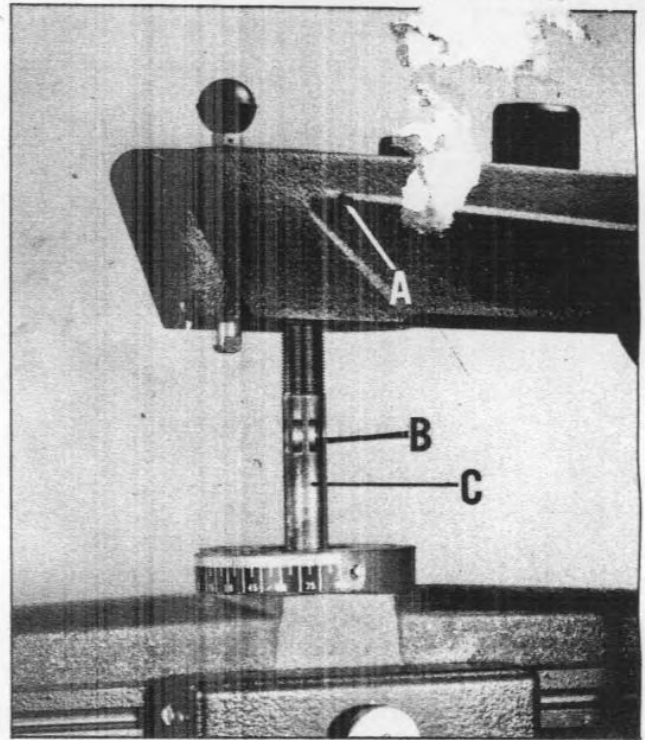
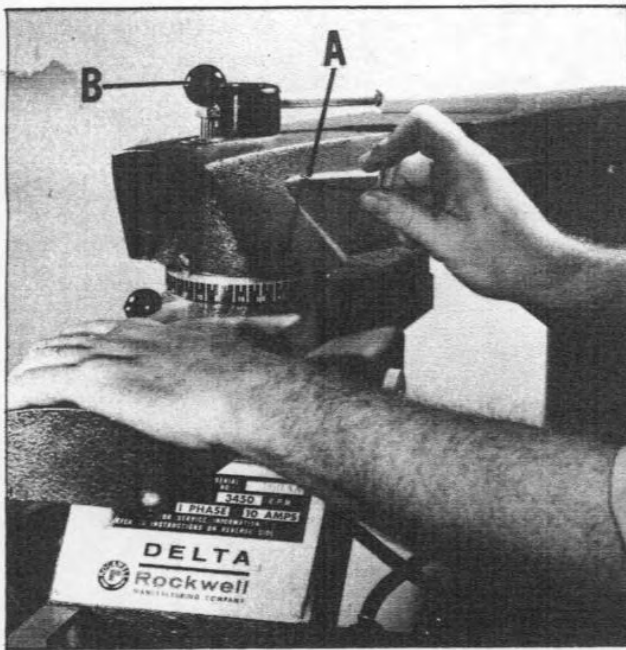

Fig. 35
Fig. 36
When the clamp handle does not lock in a convenient position (right side, slightly forward of perpendicular to over-arm) the set screw (A) must be placed in another slot (B) in the King bolt (C) Fig. 35.
For clarity Fig. 35 is shown with the track-arm lowered and the King bolt exposed.
1. Place the track-arm clamp handle in an unlocked position and loosen set screw (A) Fig. 36 four turns.
2. Lift the miter stop plunger (B), Fig. 36, and rotate the King bolt by moving the track-arm until the set screw (A) can be tightened into the next slot (B) Fig. 35 in the King bolt.